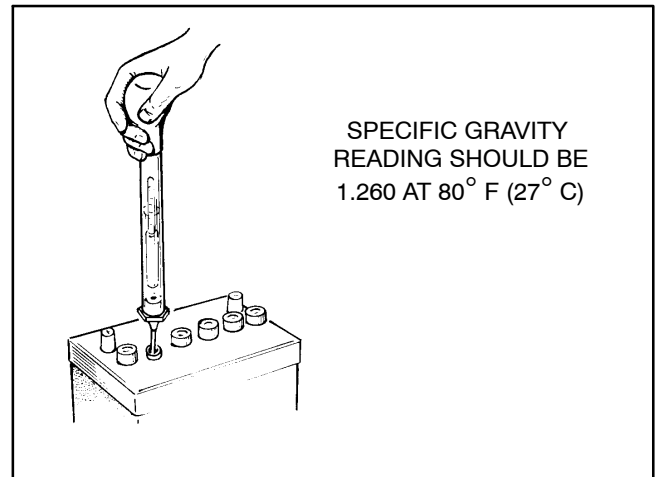

FIGURE 8-6. BATTERY CHECK
5. Use a battery hydrometer to check the specific gravity of the electrolyte in each battery cell (Figure 8-6). Charge the battery if the specific gravity measures less than 1.215. Do not overcharge the battery. Stop charging the battery when the electrolyte specific gravity reaches 1.260, at approximately 80° F (27° C).